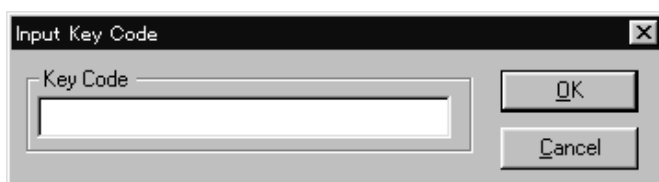

Figure 3.2 Entering the HIHSM License Key Code
- c) On the Option Product panel, select **Remote HIHSM**, and then select **Install...** to open the Input Key Code panel (see Figure 3.2).